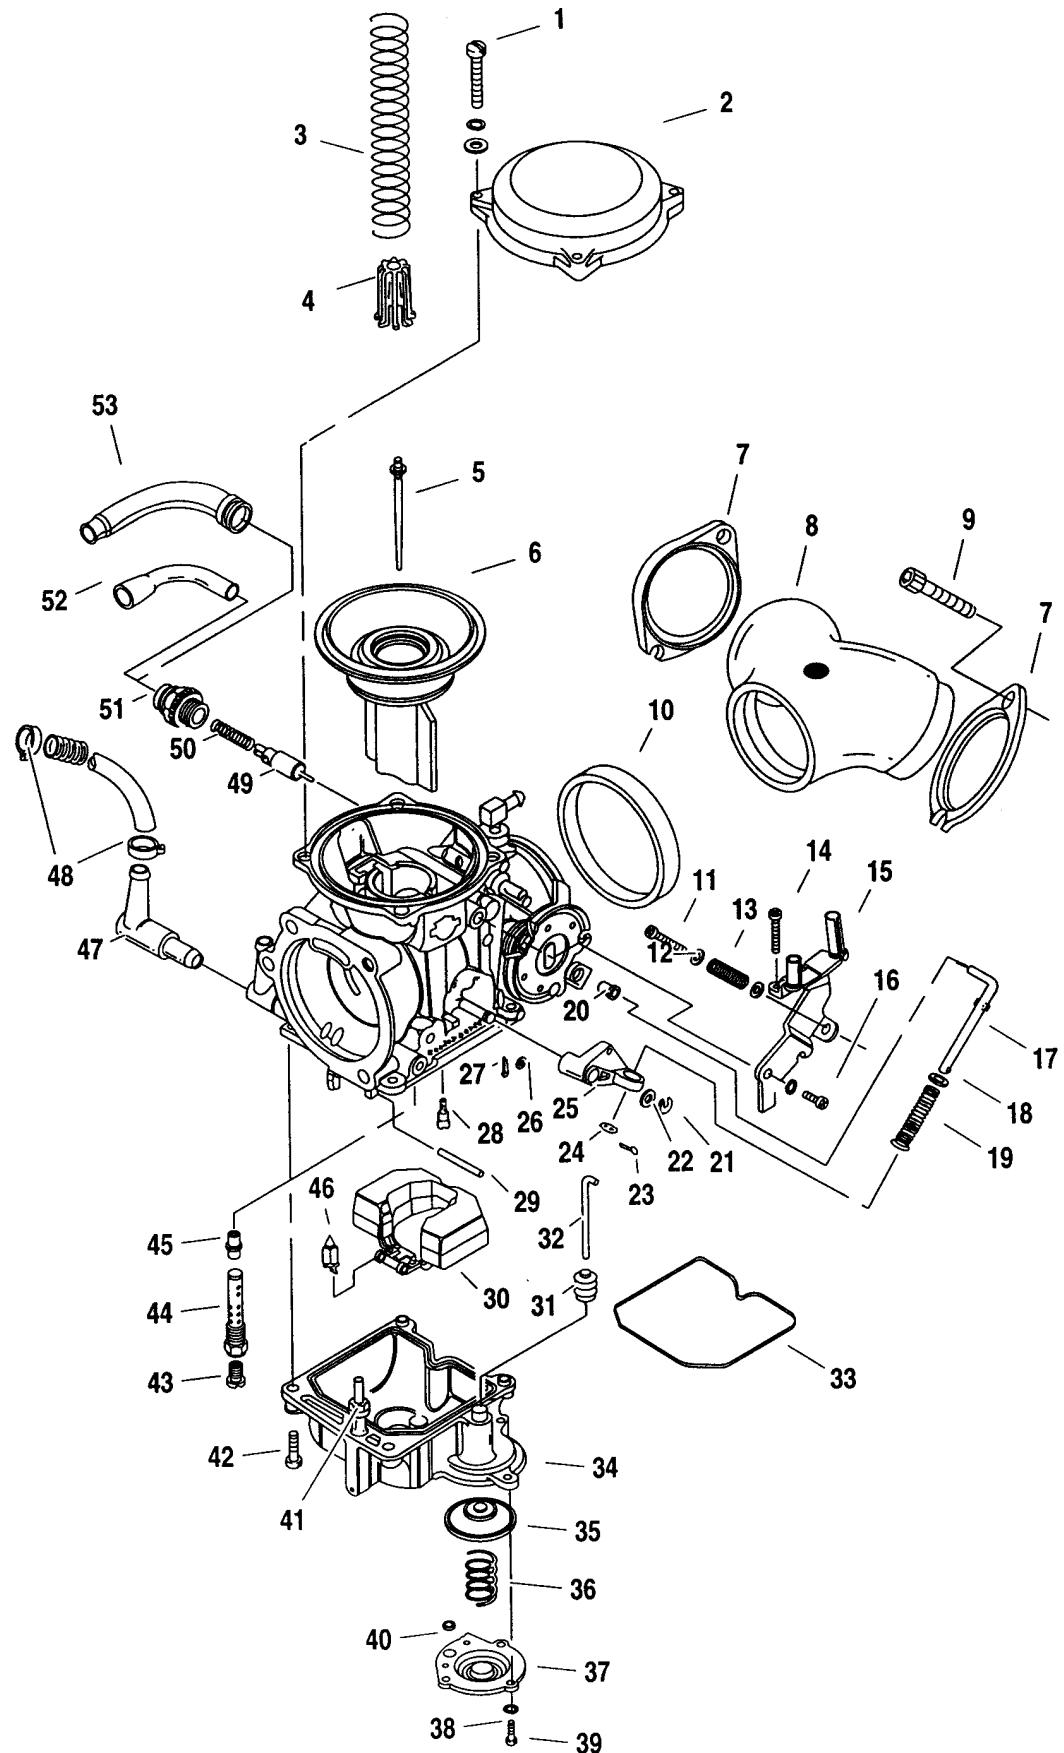

Figure 4-3. Carburetor
5. See Figure 4-3. Remove vacuum hose from the carburetor. Pull carburetor free of seal ring and manifold (8).
6. Remove enrichener cable (51, 52, and 53), enrichener valve (49) and spring (50).
7. If the manifold or manifold seals need to be removed, remove the screws (9) that hold the manifold in place and detach MAP sensor connector from wiring harness. See 8.6 MANIFOLD ABSOLUTE PRESSURE SENSOR (MAP).
Legend for Figure 4-3.
1. See Figure 4-3. Remove screws (14, 16) and bracket (15).
2. Remove screws (1) and washers. Remove top (2) and spring (3).
3. Lift out vacuum piston (6) with needle (5) and spring seat (4). Remove loose parts from vacuum piston.
1. See Figure 4-3. Remove screws (42) to detach float bowl assembly.
2. Remove pin (29), float (30) and valve (46).
3. Unscrew main jet (43) and needle jet holder (44). Needle jet (45) is now free to be removed from bottom end of passage.
4. Insert thin bladed screw driver into slow jet passage and turn out slow jet (28).
See Figure 4-3. Remove screws (39), lockwashers (38), accelerator pump housing (37), spring (36) and diaphragm (35). Remove O-ring (40) from housing.
3. See Figure 4-3. Examine spring (3) for stretching, crimping or any distortion or damage. Replace if damaged.
5. Examine needle (5) for evidence of bending or damage. Examine tip of float needle for grooves. Needle should be straight and surface of taper smooth and even.
1. See Figure 4-3. Check float bowl O-ring (33) for any distortion or damage. Replace if seating surfaces are damaged.
1. See Figure 4-3. Inspect the accelerator pump diaphragm (35) for holes, cracks or deformation. Replace as necessary.
2. Replace the pump rod (32) if it is bent and replace the boot (31) if it is cracked.
1. See Figure 4-3. Place needle (5) through center hole in vacuum piston (6). Place spring seat (4) over top of needle.
4. Place spring (3) over spring seat and carefully lower top (2). Keep spring straight while lowering top.
6. Once top is installed correctly, install screws (1) and washers. Place bracket (15) in position with idle screw (11) resting on top of throttle cam stop. Install body screw (16) and washer (18) first, then top screw (14), to prevent bending bracket or throttle cam.
1. See Figure 4-3. Screw slow jet (28) into slow jet passage with narrow bladed screwdriver.
2. Turn carburetor upside down. Place needle jet (45) in main jet passage with needle passing through center hole. Be sure end of jet with larger opening and chamfered surface enters passage first.
3. Insert needle jet holder (44) into main jet passage with needle inserted into center of holder. Thread holder into passage and tighten. Thread main jet (43) into tapped hole in holder and tighten.
4. Place float assembly (30) into position with fuel inlet valve (46) inserted into valve seat and pivot arm aligned with holes in mounting posts at bottom of carburetor body. Insert pin (29) through float pivot arm and float mounting posts.
5. Place float bowl over float and onto carburetor body flange. Bowl will only fit in one position. Install screws (42) and tighten.
6. Install enrichener valve (49) and spring (50). Install enrichener cable (51, 52, and 53) on carburetor.
See Figure 4-3. Install diaphragm (35), spring (36), O-ring (40) and housing (37). Secure with three screws (39) and lockwashers (38).
1. See Figure 4-3. Place the intake manifold seal (10), flanges (7), and manifold (8) in position. Flanges are marked with "F" for front cylinder and "R" for rear cylinder. Install the manifold mounting screws (9) finger tight. Place carburetor in position, for alignment purposes.